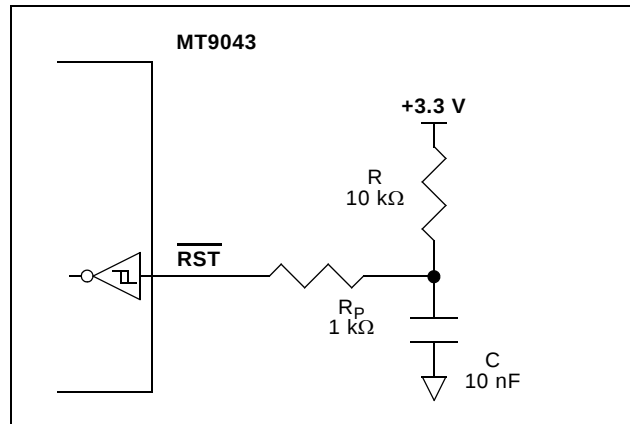

Figure 10 - Power-Up Reset Circuit
A simple power up reset circuit with about a 50 us reset low time is shown in Figure 10. Resistor R_P is for protection only and limits current into the $\overline{RST}$ pin during power down conditions. The reset low time is not critical but should be greater than 300 ns.
* See Figure 10.